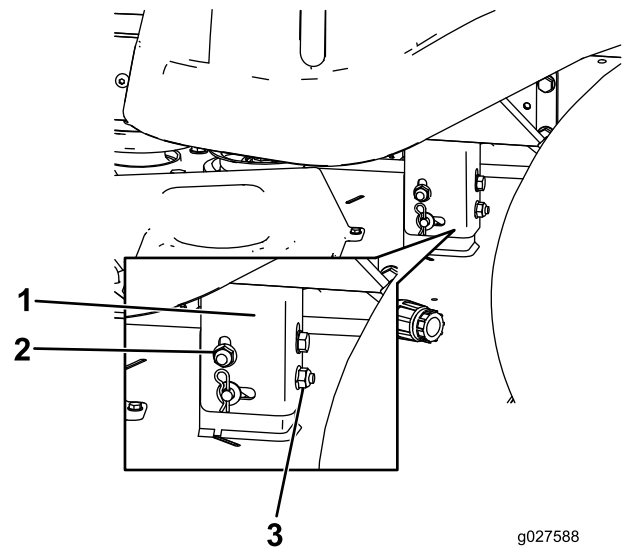

Figure 60
8. Raise or lower the left side of the mower deck by rotating the rear nut (Figure 60).
Note: Rotate the rear nut clockwise to raise the mower deck; rotate the rear nut counter-clockwise to lower the mower deck. (Figure 60).